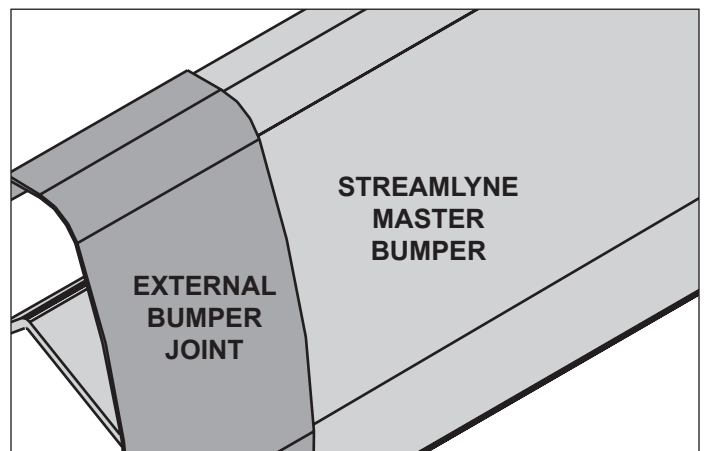

Fig. 6 Streamlyne master bumpers and joint trim
4. If the case has a Streamlyne bumper (Fig. 6), the bumper will be shipped loose in the case. Before install-